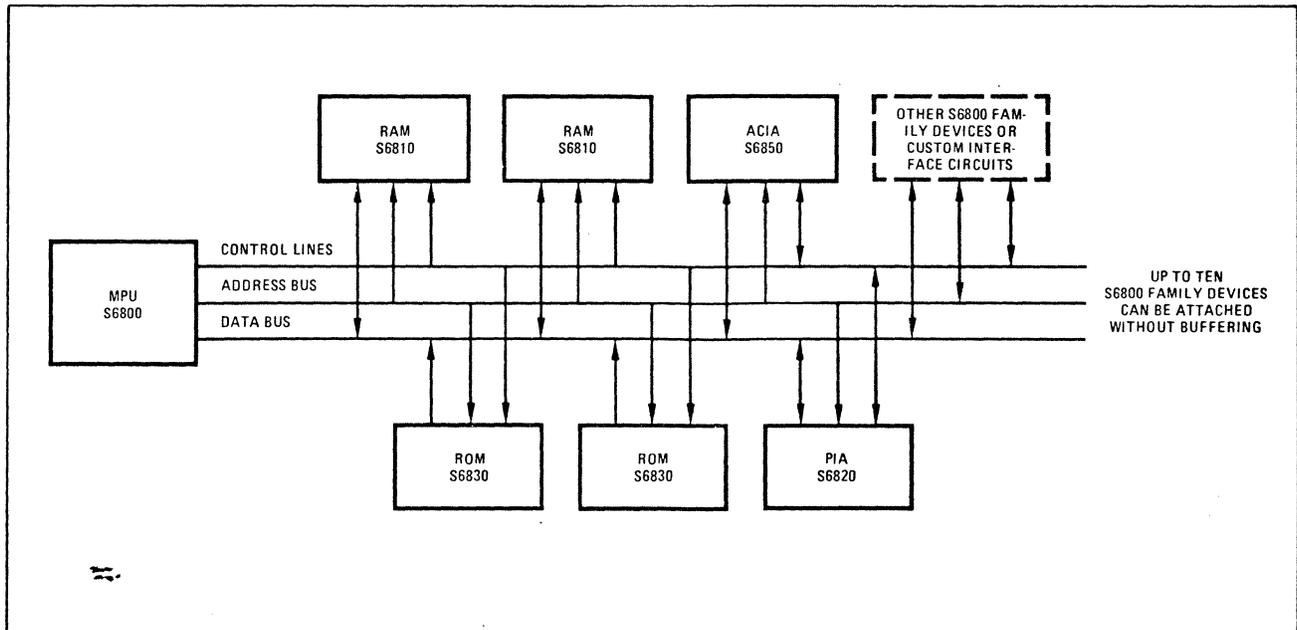

FIGURE 3. S6800 BUS SYSTEM
The MPU I/O bus relegates control to the programmed I/O devices, provides memory mapped I/O addressing and uses memory and register instructions to control all I/O operations. The MPU bus configuration is shown in Figure 3.
1. At the completion of the instruction being executed, the contents of the program accessible registers (Figure 3) are stored in the stack.